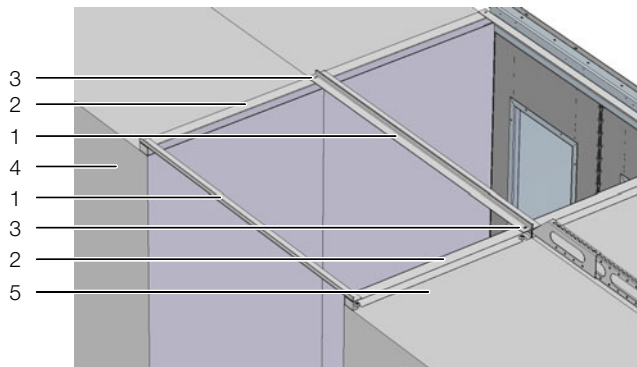

Fig. 49: Centre aisle covering
- Place the aisle elevations (fig. 49, item 3) on the IT enclosure roof and push under the head of the fastening screw of the IT enclosure roof.